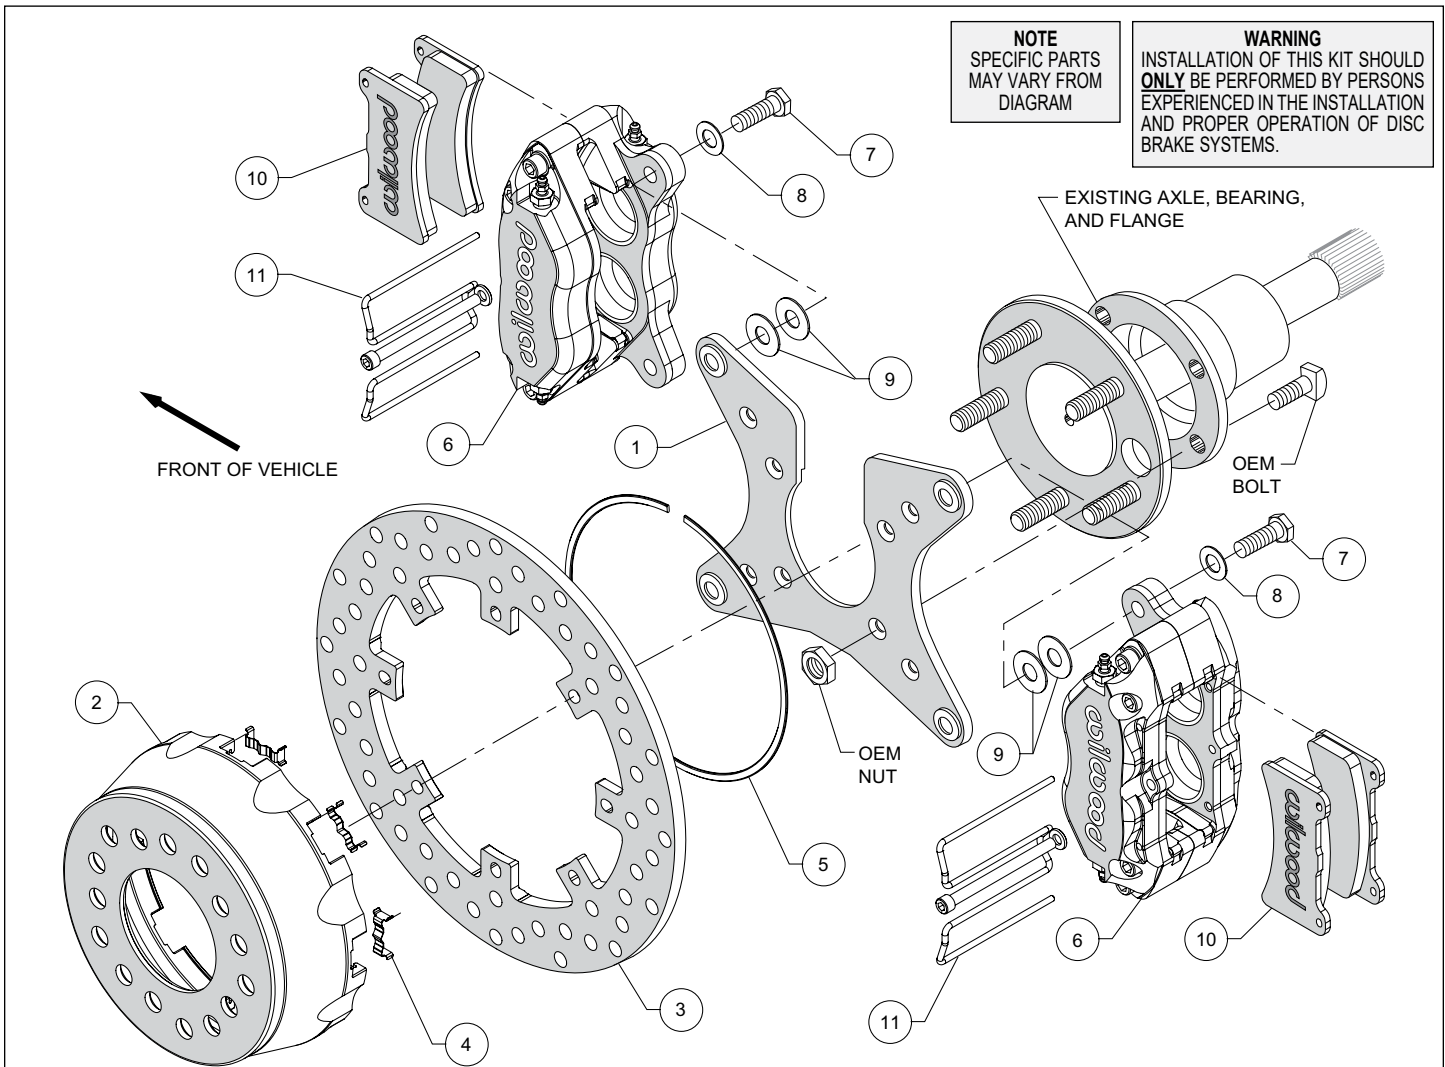
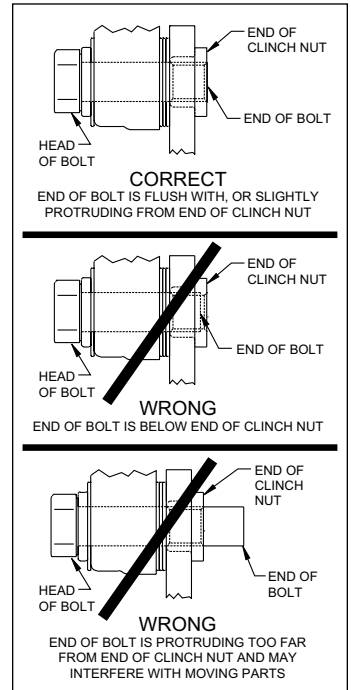
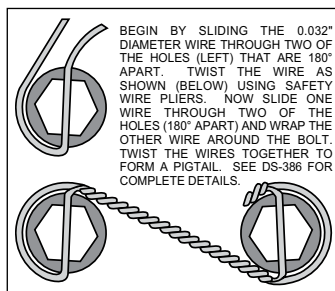

Figure 1. Typical Installation Configuration
Figure 4. Clinch Nut Engagement Diagram
Figure 5. Safety Wire Diagram
Assembly Instructions (numbers in parenthesis refer to the parts list and Figure 1 on the preceding pages): **CAUTION:** All mounting bolts must fully engage clinch nuts. Be sure to check that all bolts are either flush or protruding through flanged side of clinch nut after shimming, Figure 5.
- Install the caliper mounting bracket (1), with the slot for the axle pointing upward, to the housing flange using the OEM bolts and nuts, as shown in Figure 1 and Photo 1. Ensure that the caliper mounting ears on the bracket are oriented fore and aft on the car, with the heads of the clinch nuts facing outboard, Photo 1. Apply red *Loctite*® 271 to the OEM bolt threads and torque to OEM specifications.
- Insert the dynamic mount wear clips (4) into the slots in the hat (2) making sure the tabs snap in place, Photo 2. Orient the rotor (3) as shown in Figure 1 and Photo 3, with the flush mount tab side facing the hat. Attach the rotor to the hat using snap ring (5) by pushing down on the rotor and installing the ring into the groove in the hat, as shown in Photo 4. Ensure that the ring is fully engaged in the groove.
- Align the correct hole pattern in the hat (2) with the axle stud pattern and slide the hat/rotor assembly onto the axle hub. **NOTE:** The hat must fit flush against the axle flange or excessive rotor run out may result. Install three lug nuts (finger tight) to keep the hat/rotor in place while continuing with the installation. **NOTE:** The hats included in this brake kit are drilled for .68" diameter wheel studs.
- NOTE:** Please reference the caution statement at the beginning of the assembly instructions. Mount one caliper (6) onto the mounting bracket (1) using bolts (7) and washers (8), as shown in Figure 1. Initially place two .035" thick shims (9) on each bolt between the caliper and the bracket, Photo 5. Temporarily tighten the mounting bolts and view the rotor (3) through the top opening of the caliper. The rotor should be centered in the caliper, Photo 6. If not, adjust the caliper by adding or subtracting shims between the bracket and the caliper. Always use the same amount of shims on each of the two mounting bolts.
NOTE: The end of each bolt must be flush with or slightly protruding from the head of the clinch nut. If necessary, place spare shims between washer and caliper mounting ear to achieve the proper clinch nut engagement, as shown in Figure 4. Once the caliper alignment and clinch nut engagement are correct, remove the bolts one at a time, apply red *Loctite*® 271 to the threads, and torque to 40 ft-lb. For an added measure of security, the bolts may be safety wired using standard 0.032 inch diameter stainless steel safety wire as shown in Figure 5.